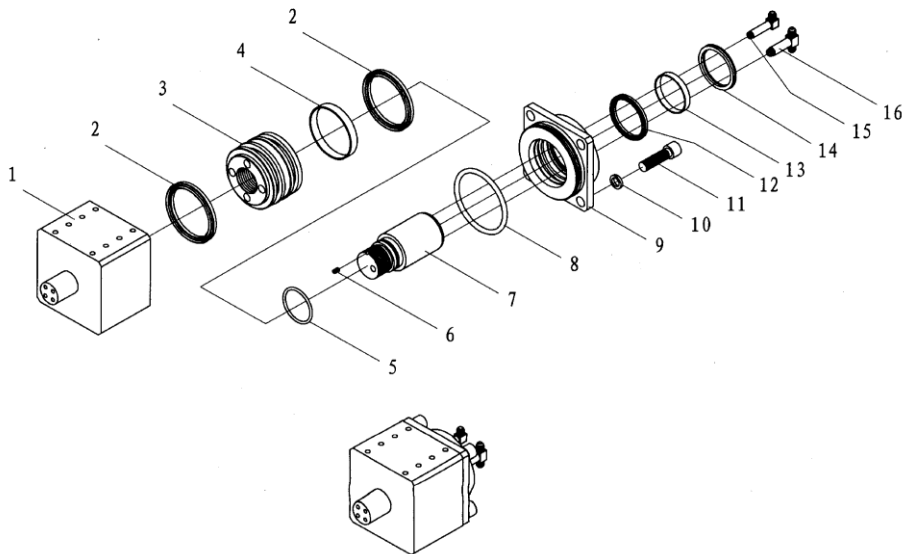

Fig.7-21
21. Assembly of clamping cylinder (Fig 7-21, Table 21)